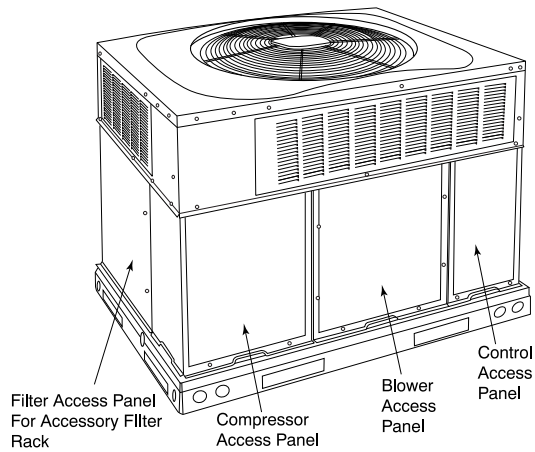

Fig. 25 – Unit Access Panels
- a. Remove blower access panel (see Fig. 25).
- g. Reinstall blower access panel (see Fig. 25).
1. Remove control access panel (See Fig. 25).
Remove blower access panel (see Fig. 25). Limit switch is located on the fan partition.
3. Remove control access panel (See Fig. 25).
Remove access panels (see Fig. 25) to locate all the electrical controls and wiring. Before working with or handling any electrical components, make sure that all capacitors are properly discharged to avoid possibility of sparking. Replace components only with parts specified by the manufacturer. Other parts may result in the ignition of refrigerant in the atmosphere from a leak. Check all electrical connections for tightness. Tighten all screw connections. If any smoky or burned connections are noticed, disassemble the connection, clean all the parts, re-strip the wire end and reassemble the connection properly and securely.